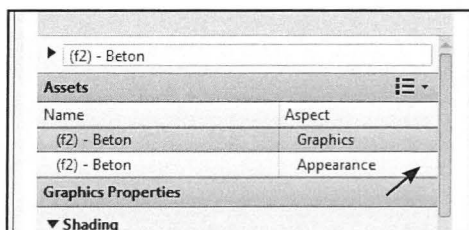

Fig. 05.88.
- Find et passende materiale for Beton under *Appearance* (Fig. 05.88).